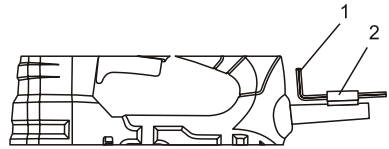

Fig. 2
The 1/8" (3 mm) hex key (1) for adjusting the bevel cutting angle is stored in power cord holder (2) at the rear of the jigsaw (Fig. 2).